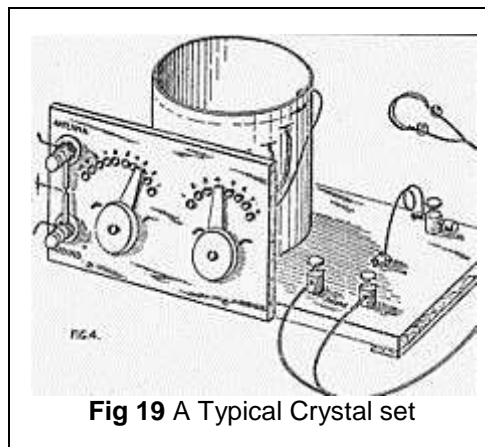

Fig 19 A Typical Crystal set
The most common type of receiver before vacuum tubes was the crystal set (**Fig 19**); although some early radios used some type of amplification through electric current or battery. Inventions of the triode amplifier, motor generator, and detector enabled audio radio. The use of amplitude modulation (AM), with which more than one station can simultaneously send signals (as opposed to spark-gap radio, where